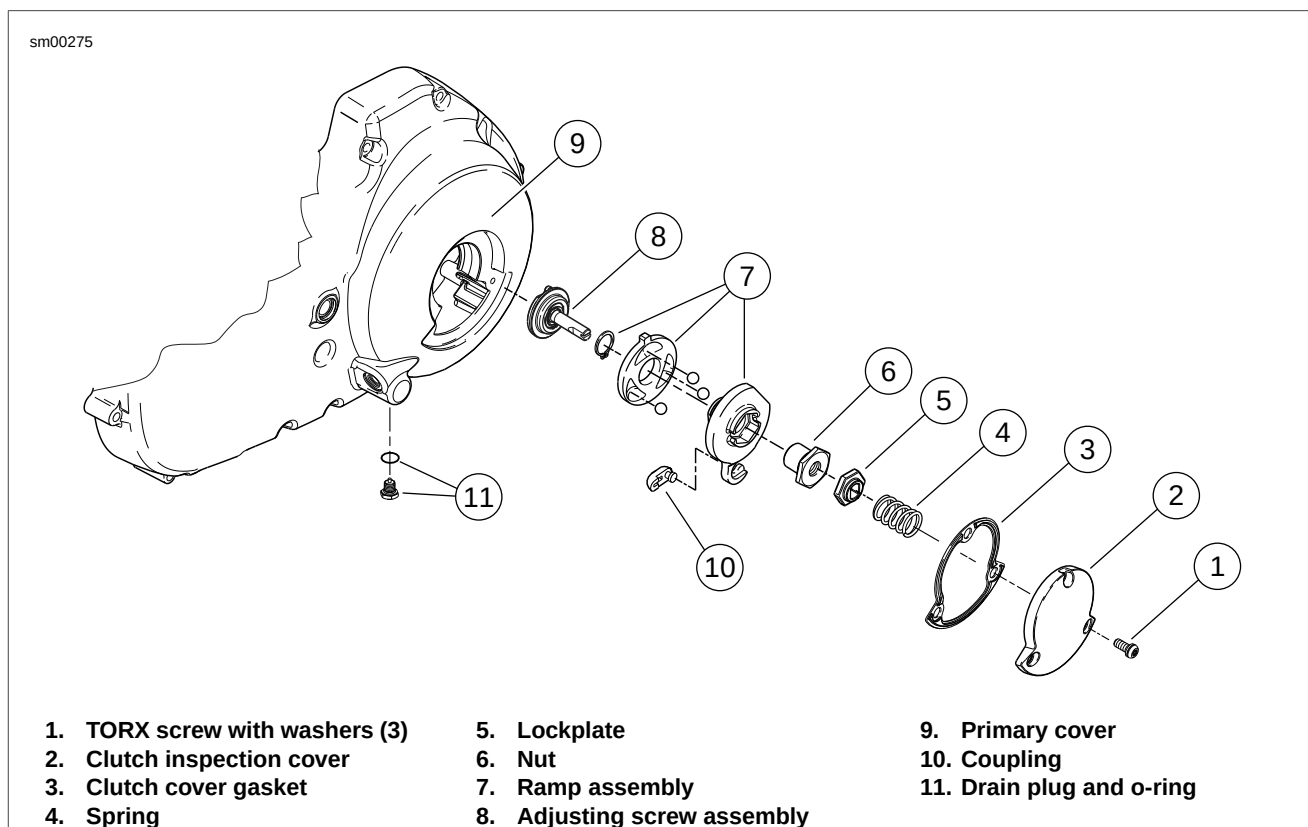

Figure 6-9. Clutch Release Mechanism
4. See Figure 6-9. Remove three TORX screws with washers (1) and clutch inspection cover (2).
5. Slide spring (4) with attached screw lockplate (5) from flats of adjusting screw.
6. Turn adjusting screw clockwise to release ramp assembly (7) and coupling (10). As the adjusting screw is turned, ramp assembly moves forward. Unscrew nut (6) from end of adjusting screw.
7. Remove hook of ramp from cable end coupling (10). Remove cable end from slot in coupling.
2. See Figure 6-9. Inspect three balls of release mechanism and ball socket surfaces of inner and outer ramps for wear, pitting, surface breakdown and other damage. Replace parts as necessary.